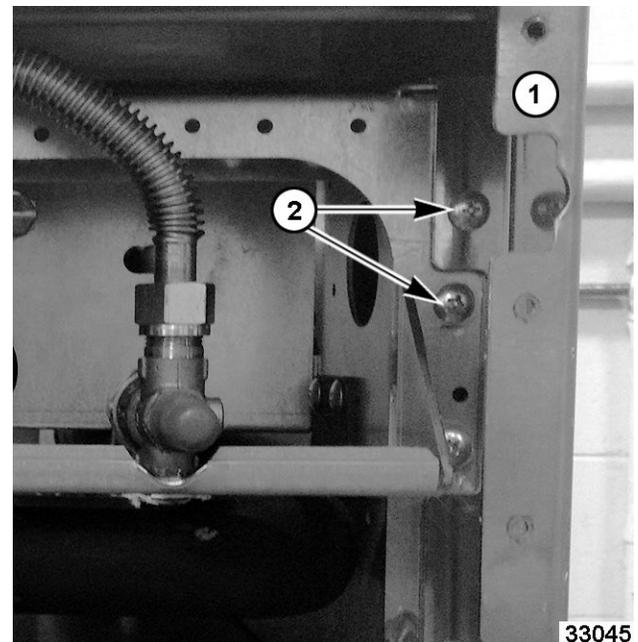

Fig. 14
3. Remove end caps (1, Fig. 14) on both sides.
- Right side mounting screws (2, Fig. 14).